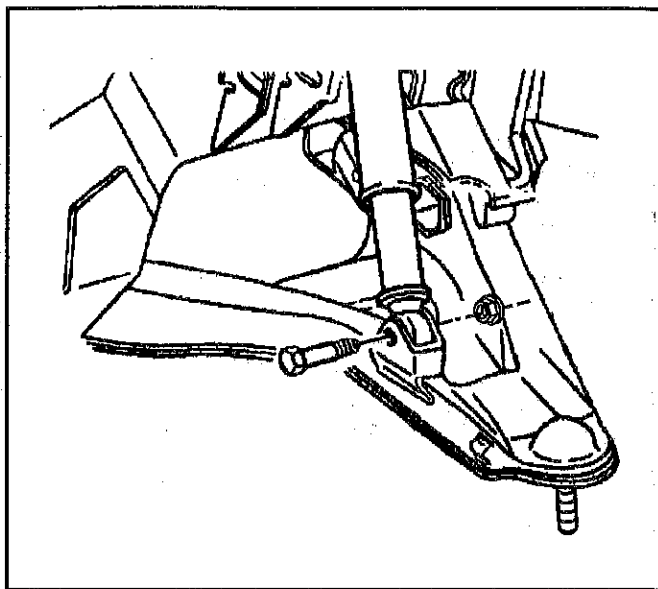

Figure 31—Disconnecting the Lower Shock Mount
6. Lower shock mounting nut and bolt (Figure 31).
- 7. Shock absorber to lower shock mounting bracket with bolt and nut (Figure 31).